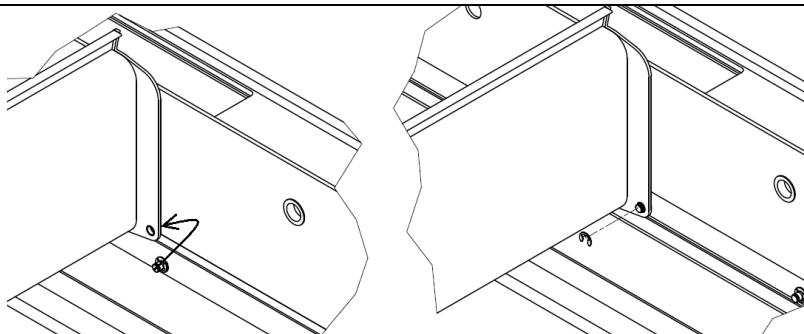

Figure 48
9. Lift the rod to the level of the lower hole in the blade drive end cap and apply it from the outside (between the end cap and the beam) to the side of the drive end cap (fig. 48-left).
10. Push the protruding end of the pin from the rod into the hole of the blade cap (fig. 48-right). When pressing in, be careful not to push the slip ring out of the end cap.
11. Secure the visible end of the pin with a small snap-ring exactly in the outermost groove of the pin (fig. 48) - use the dedicated tool (fig. 48-right).